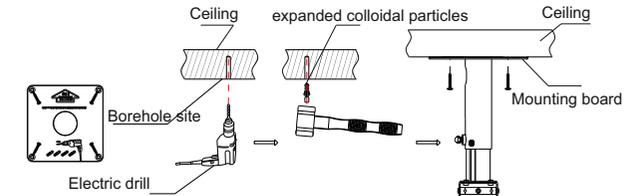

Figure 1-9
Step 4-2: determine the position of the hanger to be installed on the ceiling, paste the label of the drilling position, use the drilling tool to align the hole position, drill four Φ 10 holes, knock in the expanded rubber particles, and screw in the st6x45 self tapping screw to install the upper roof assembly on the ceiling. Refer figure 1-9 (Suitable for ceiling hoisting and installation)